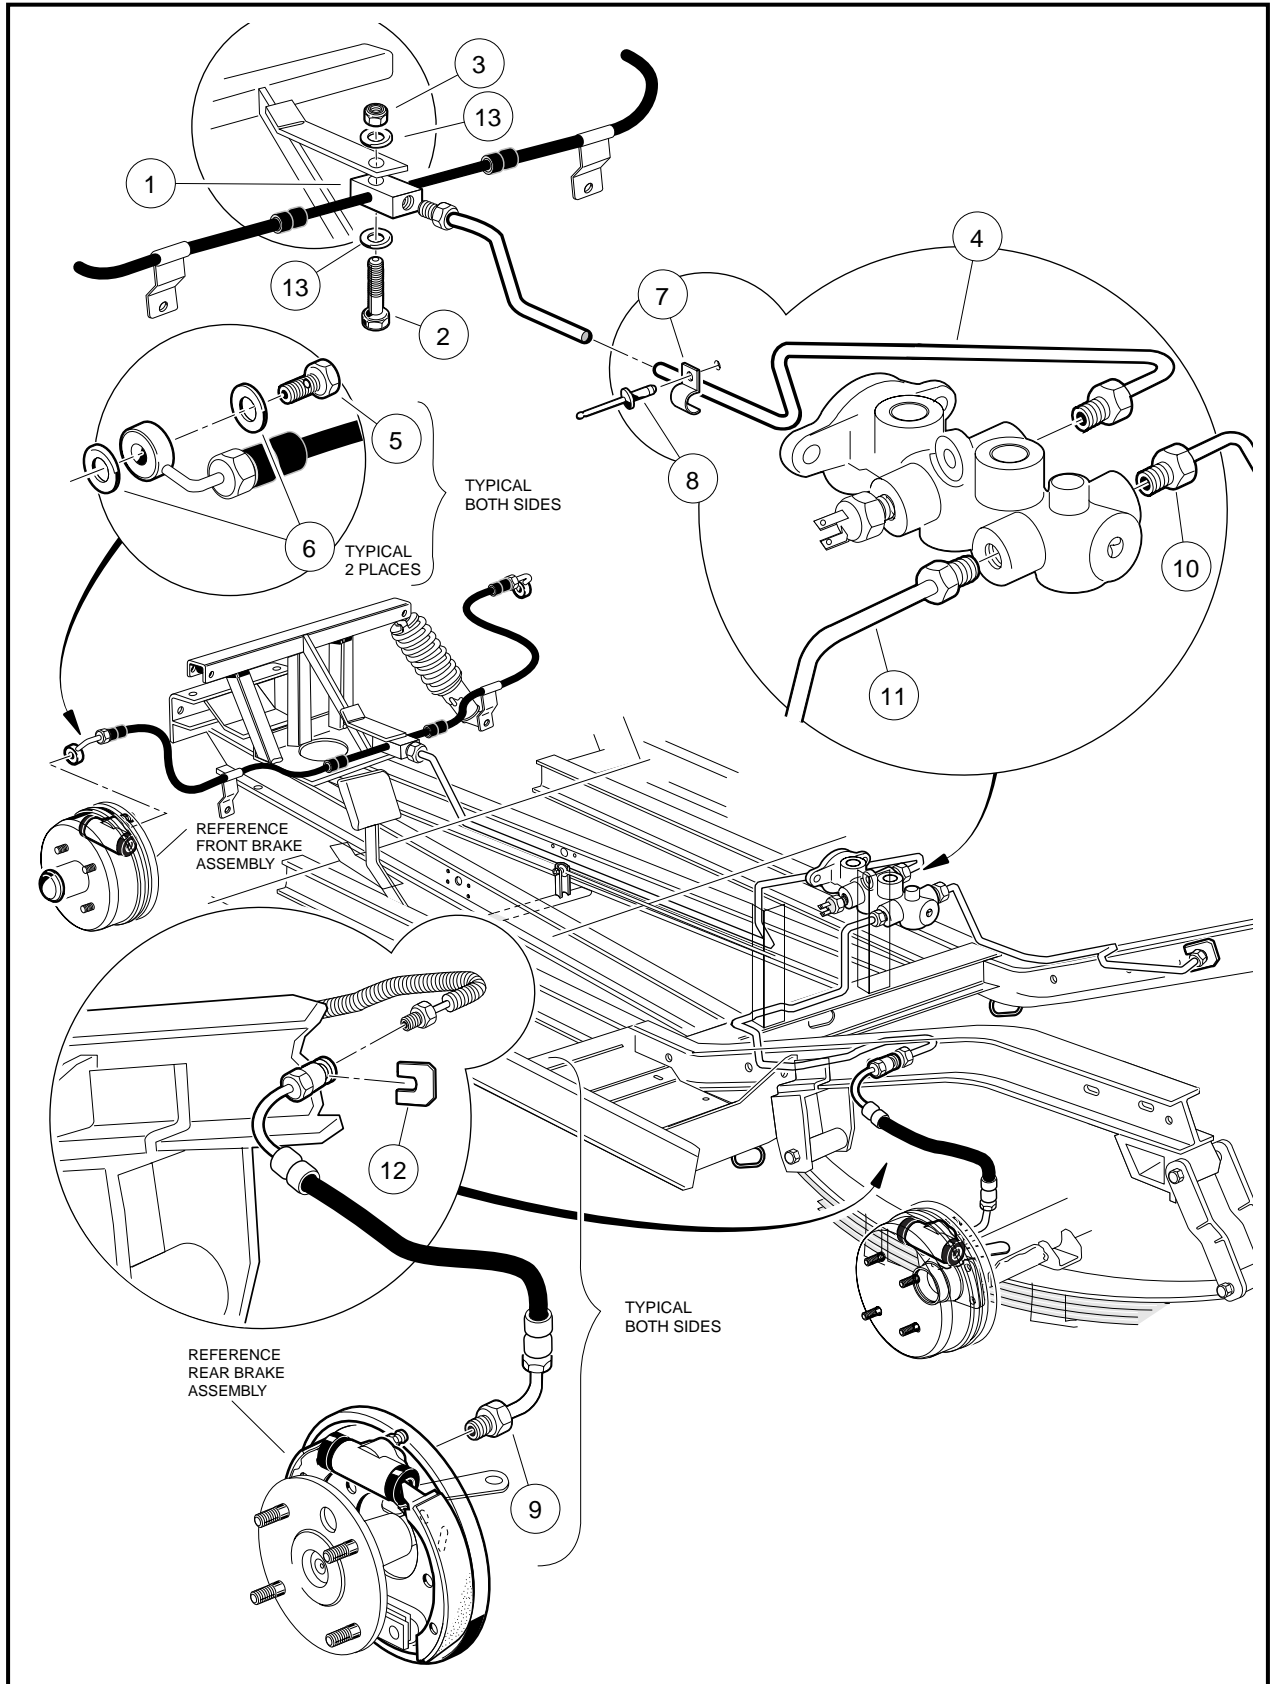

Figure 6-20 Four-Wheel Hydraulic Brake System
The following procedure is for the removal of the front brake line (4) (**Figure 6-20, Page 6-23**).
2. Drill the rivet (8) securing the brake line (4) to the vehicle frame (**Figure 6-20, Page 6-23**).
4. Using a **flare nut wrench**, remove the flare nut of the front brake line (4) from the master cylinder (**Figure 6-20, Page 6-23**).
5. Using a **flare nut wrench**, remove brake line (4) from the Y-adaptor block (1) (**Figure 6-20, Page 6-23**).
1. Connect the flare nut of the brake line (4) to the master cylinder and tighten finger-tight (**Figure 6-20, Page 6-23**).
2. Connect the flare nut of the brake line (4) to the Y-adaptor block (1) and tighten finger-tight (**Figure 6-20, Page 6-23**).
3. Secure the brake line to the vehicle frame with the P-clamp (7) and a new rivet (8) (**Figure 6-20, Page 6-23**).
If either of the two front brake hoses or the Y-adaptor (1) are found to be damaged, the entire assembly must be replaced (**Figure 6-20, Page 6-23**).
5. Using a **flare nut wrench**, remove the brake line (4) from the Y-adapter block (1) (**Figure 6-20, Page 6-23**).
6. Remove the bolt (2), two washers (13) and lock nut (3) that secure the Y-adapter (1) to the shock tower (**Figure 6-20, Page 6-23**).
7. Remove the Y-adapter and front hose assembly (1) from the vehicle (**Figure 6-20, Page 6-23**).
2. Tighten the nut (3) to 76 in-lb (8.6 N·m) (**Figure 6-20, Page 6-23**).
5. Connect the flare fitting to the Y-adapter (1) with a **flare nut wrench** and tighten to 11 ft-lb (14.9 N·m) (**Figure 6-20, Page 6-23**).
3. Using a **flare nut wrench**, remove brake line (10 or 11) from master cylinder (**Figure 6-20, Page 6-23**).
4. Using a **flare nut wrench**, remove the brake line (10 or 11) from the rear brake hose at the I-beam of the vehicle frame (**Figure 6-20, Page 6-23**).
3. Using a **flare nut wrench**, install the brake line (10 or 11) to the rear brake hose at the I-beam of the vehicle frame (**Figure 6-20, Page 6-23**). Tighten to 11 ft-lb (14.9 N·m).
5. Remove the horseshoe clip (12) that secures the rear brake hose (9) to the I-beam of the vehicle frame (**Figure 6-20, Page 6-23**).
6. Remove the brake hose (9) from the vehicle (**Figure 6-20, Page 6-23**).
4. Using a **flare nut wrench**, install the brake line (10 or 11) to the rear brake hose at the I-beam of the vehicle frame (**Figure 6-20, Page 6-23**). Tighten to 11 ft-lb (14.9 N·m).